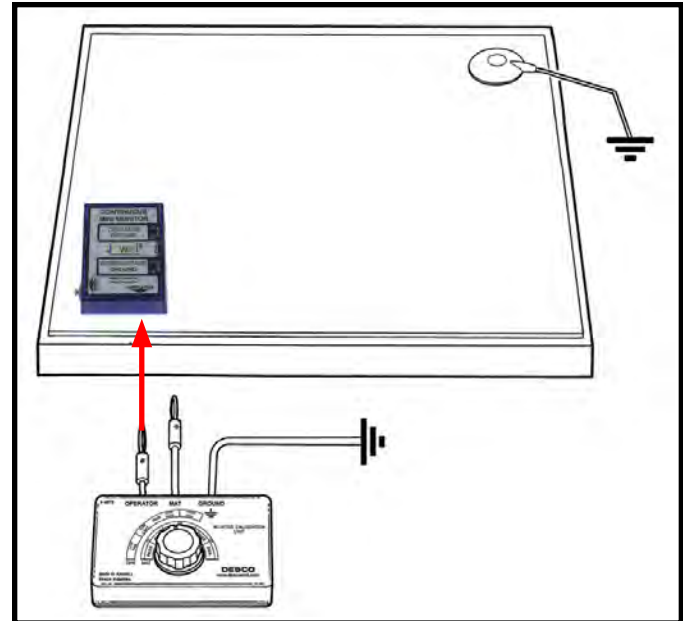

Figure 6. Connecting the OPERATOR test lead from the Monitor Calibration Unit to the Jewel® Workstation Continuous Mini Monitor
**Step 2:** Insert the Calibration Unit’s banana plug labeled “OPERATOR” into the jack labeled “OPERATOR” on the Jewel® Workstation Continuous Mini Monitor (see Figure 6).